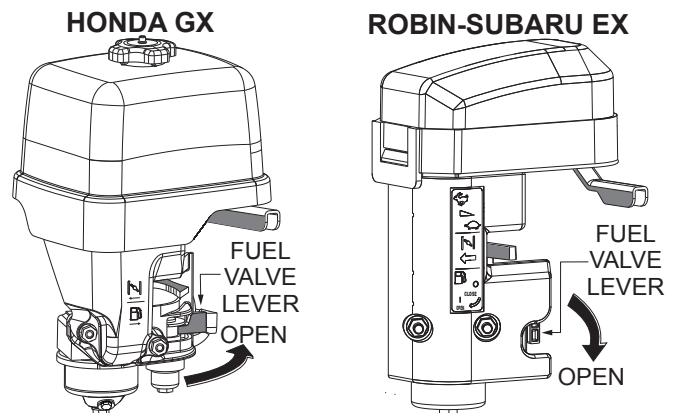

Figure 27. Engine Fuel Valve Lever (OPEN)
1. Place the engine fuel valve lever in the **OPEN** position (Figure 27).